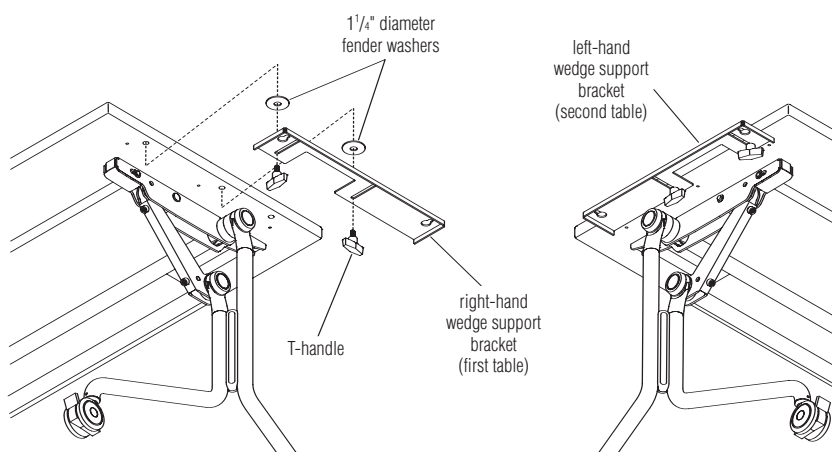
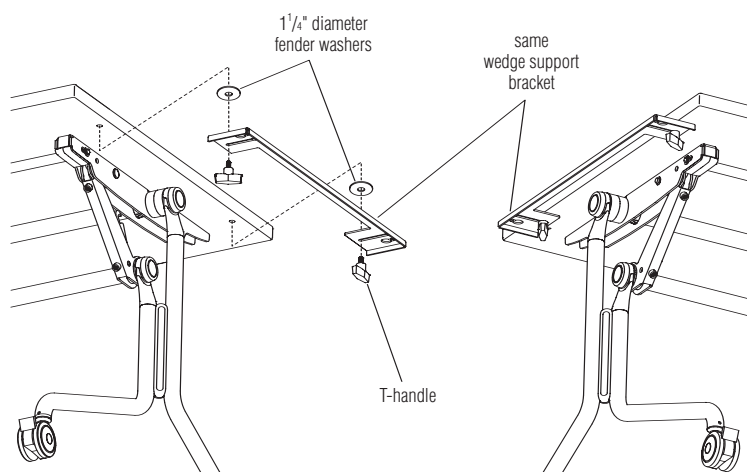

Figure 2
Figure 3
Note: Two different fender washer sizes are used for this installation. Be sure to use the correct size washer for the appropriate step of the assembly process. The larger diameter 1 1/4" fender washers are to be used in step two, Figures 2 & 3.
Note: Two different types of wedge support brackets are possible, depending on the width of the tables being joined. Tables which are 24" wide use a right- and left-hand bracket type (Figure 2). Tables which are 30"-36" wide use the non-handed "same" type of wedge support bracket (Figure 3).
2. Determine if tables and wedge to be joined are 24", or 30"-36" and locate appropriate wedge support brackets. For 24" wide tables use the right- and left-hand type of wedge support brackets and secure as illustrated using the 1 1/4" flat washers and T-handles (Figure 2). For 30"-36" tables, use the non-handed wedge support brackets and secure as illustrated using the 1 1/4" flat washers and T-handles (Figure 3).